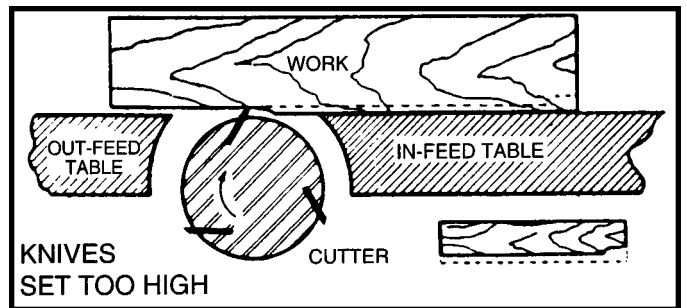

Fig. 44
8. If the knives are set too high, the work will be gouged, curved, or bowed at the end of the cut, as shown in Fig. 44.